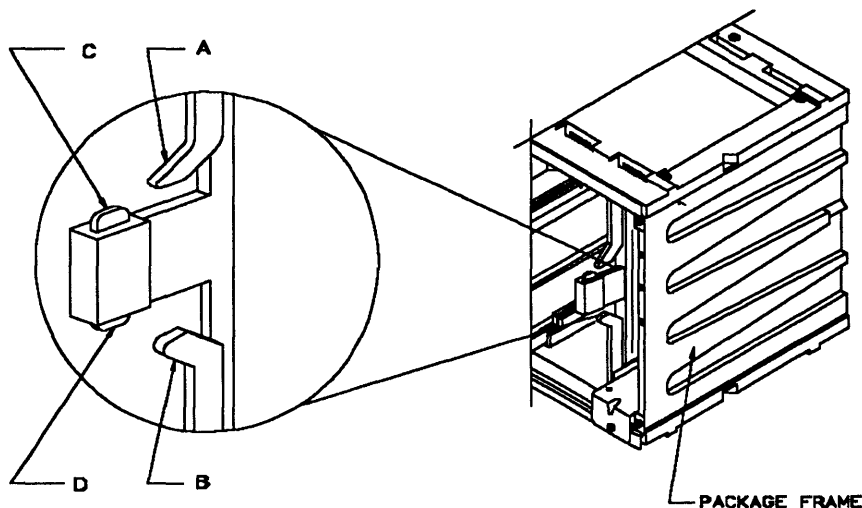

Figure 5-70. Card Clamp Mechanism
- a. Using both hands, release levers A and B simultaneously by moving them upwards and outwards to their fullest extent, refer to Figure 5-70.
- a. Using both hands, release levers A and B simultaneously by moving them upwards and outwards to their fullest extent, refer to Figure 5-70 on page 5-78.